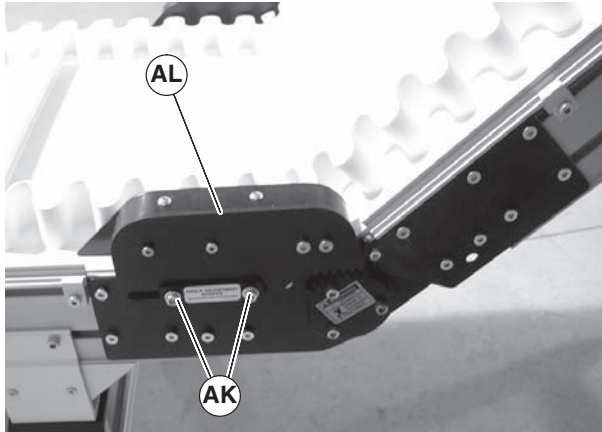

Figure 31
- If equipped, install lower knuckle return roller assembly (Figure 31, item AK) with screws (AL) on both sides of knuckle, note the position of the meshing teeth.